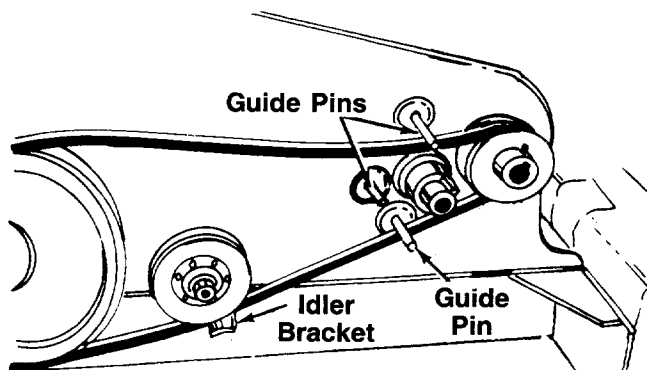

FIGURE 25.
6. Remove the belt and install the new belt. Be sure the belt is routed around the guide pins as shown in figure 25.
Belt must be between the "V"-idler pulley and the idler bracket. See figure 25.